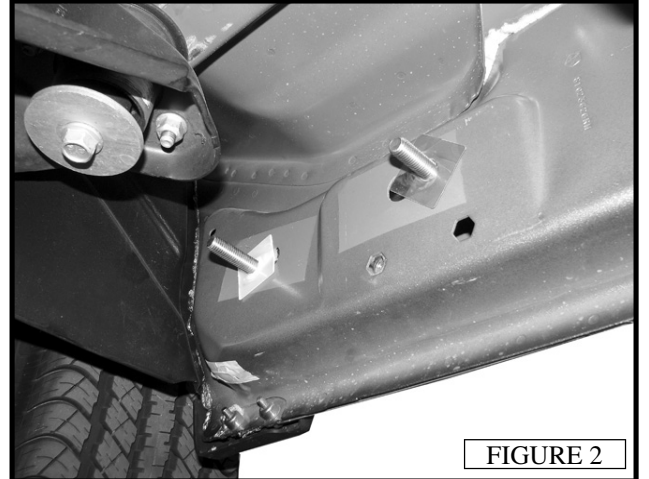

FIGURE 2
- Partially thread (1) M11 plastic retainer to (1) M12 stud plate, then insert it into the most frontal slot. Tighten the plastic retainer so the stud plate is secure. (FIGURE 2)
- Unscrew the vehicle's body mount bolt located to the left of the mounting bracket. Attach (1) mount support bracket between the body mount and body mount bolt assembly. (FIGURE 2)